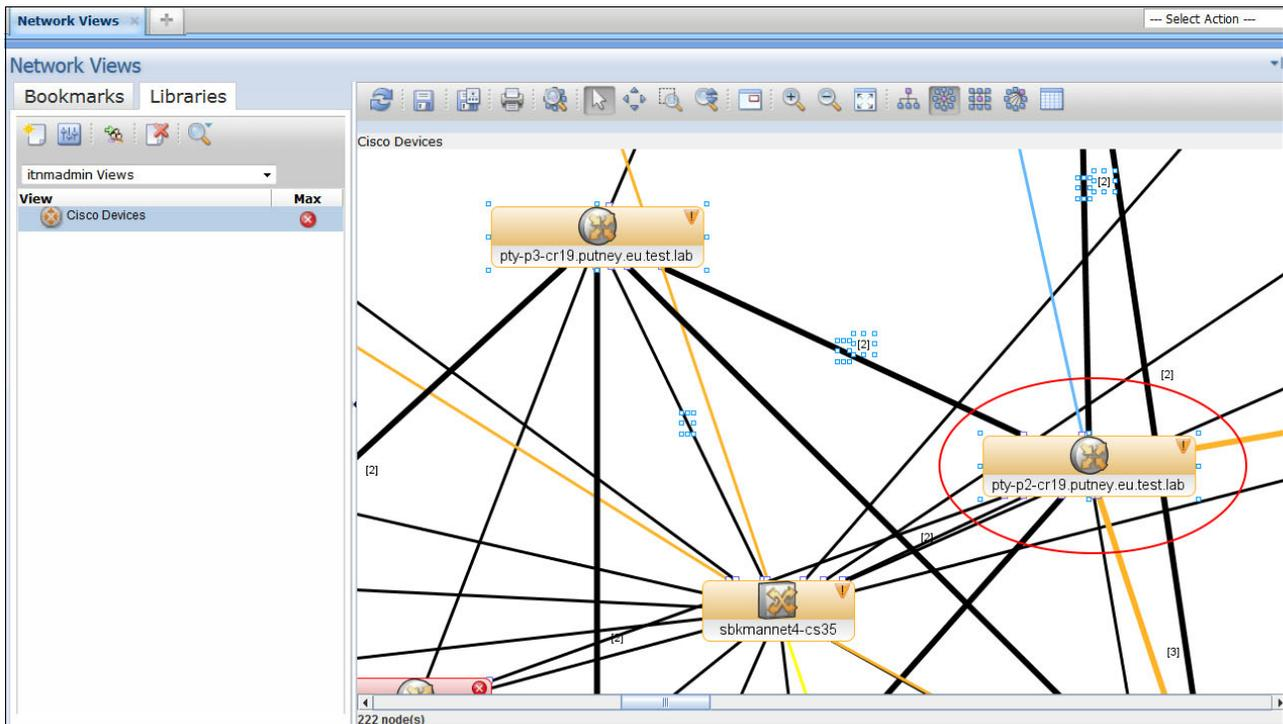

Figure 5-10 Problematic device found
11. The device is found and highlighted, as shown in Figure 5-10.